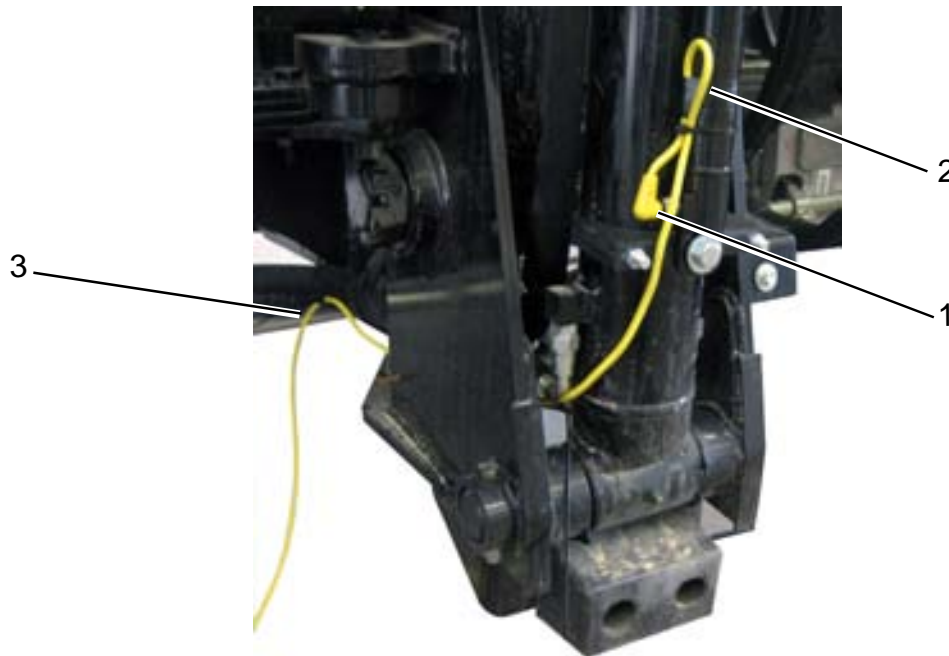

Figure 6
- The linear harness should be connected to the linear sensor. If not, apply dielectric grease to the DIN connector (**Figure 6, 1**) of the linear harness. Connect the DIN connector directly into the connector on the linear sensor. Orientate the harness connector so that the harness is vertical and aligned with the linear sensor. Tighten the screw in the harness connector to secure in place.
- Loop (**Figure 6, 2**) the linear harness and route (**Figure 6, 3**) along the hydraulic hose and through the base mount of the AutoReach arm assembly.